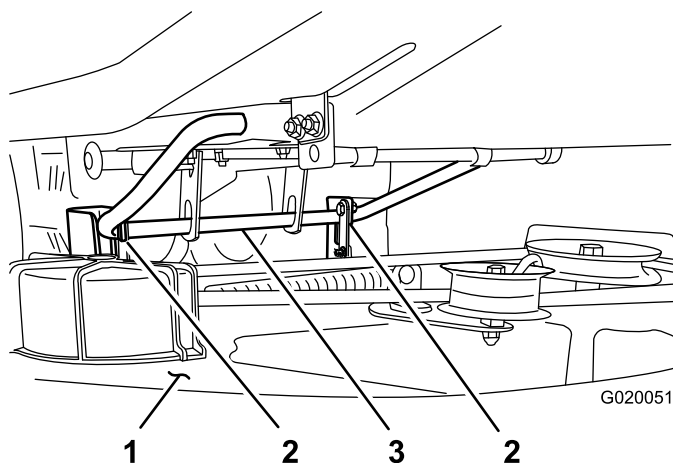
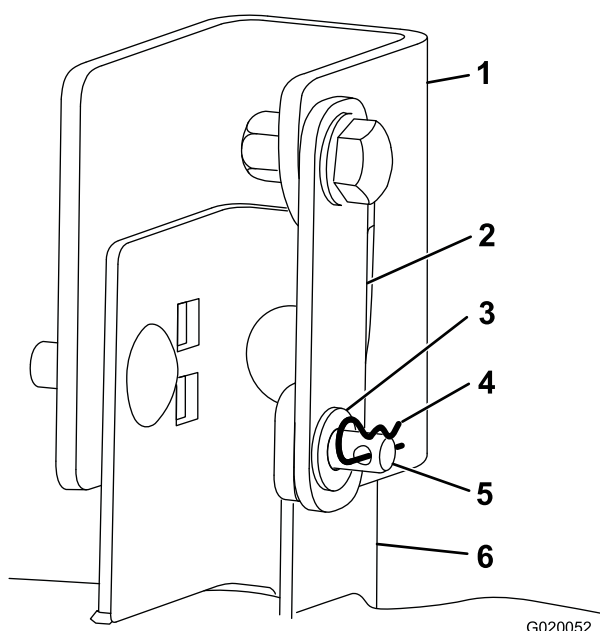

Figure 37
Figure 38
7. Remove the hairpin cotter and washer from the clevis pin in the hanger bracket and deck-support bracket on one side of the mower deck. Repeat for the other side (Figure 37 and Figure 38).
7. Lift the rear of the mower deck, and guide the hanger brackets over the rear lift rod (Figure 37).
8. Swivel each deck-support bracket so that the hole in the loose end aligns with the hole in the hanger bracket (Figure 38).
9. Install the clevis pin through the brackets on each side; then install the washers on the clevis pins and hairpin cotters through the clevis pins (Figure 38).
8. Lift the rear of the deck slightly to take the pressure off of the clevis pins, and remove them (Figure 37 and Figure 38).
9. Lift the mower deck and the hanger brackets clear of the rear lift rod, and lower the rear of the mower deck carefully to the ground (Figure 37).